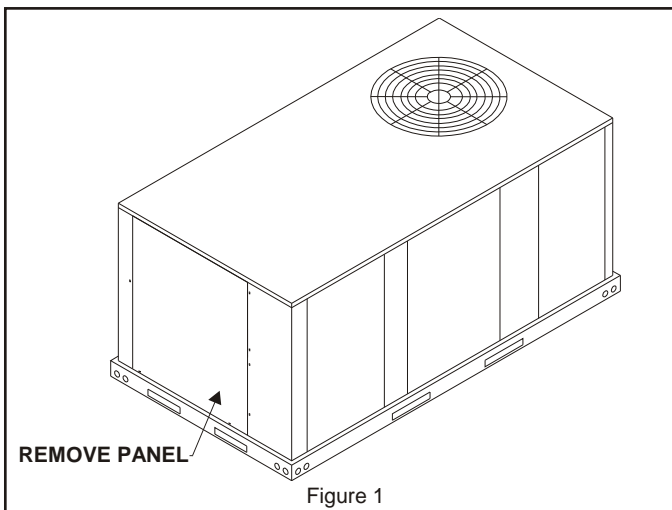

Figure 1
3. Remove the rooftop unit horizontal return air access panels. Also remove any hoods and/or power exhaust equipment. Discard hoods, power exhaust equipment, and horizontal return air panels. **See Figure 1.**